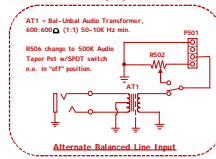

Fig. 1
5. Replace Key Jack (L507) with Normally Closed "N" phone jack for unbalanced line input. For usual line-in operation insert phone plug, and remove plug for standard stock mic operation. For balanced line-in use Normally Closed "N" TRS (headphone type) phone jack. See Fig. 1 for associated circuit.